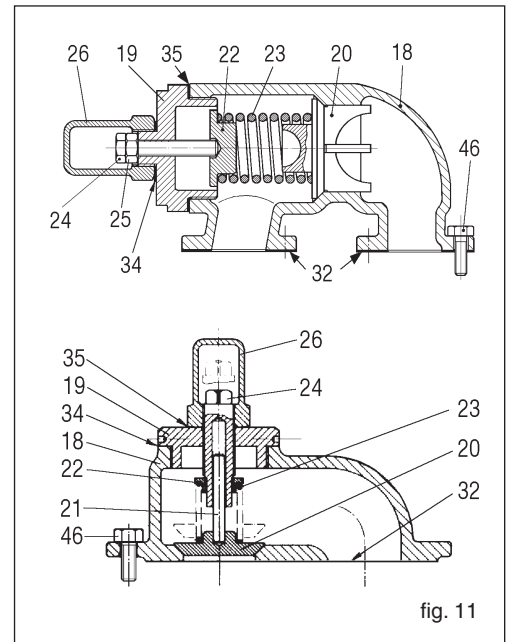

fig. 11
- ❑ If the pump mounts a by-pass relief valve (figure 11) on the cover it is not necessary to remove it. If, however, the by-pass also requires maintenance, unscrew the screws (46) and remove it, taking care not to damage the gasket(s) (32). If the gaskets are damaged, replace them.
- ❑ If the pump mounts a heating jacket on the cover (option +R2 (07), this will separate from the cover as soon as the screws are removed (43), see figure 11.